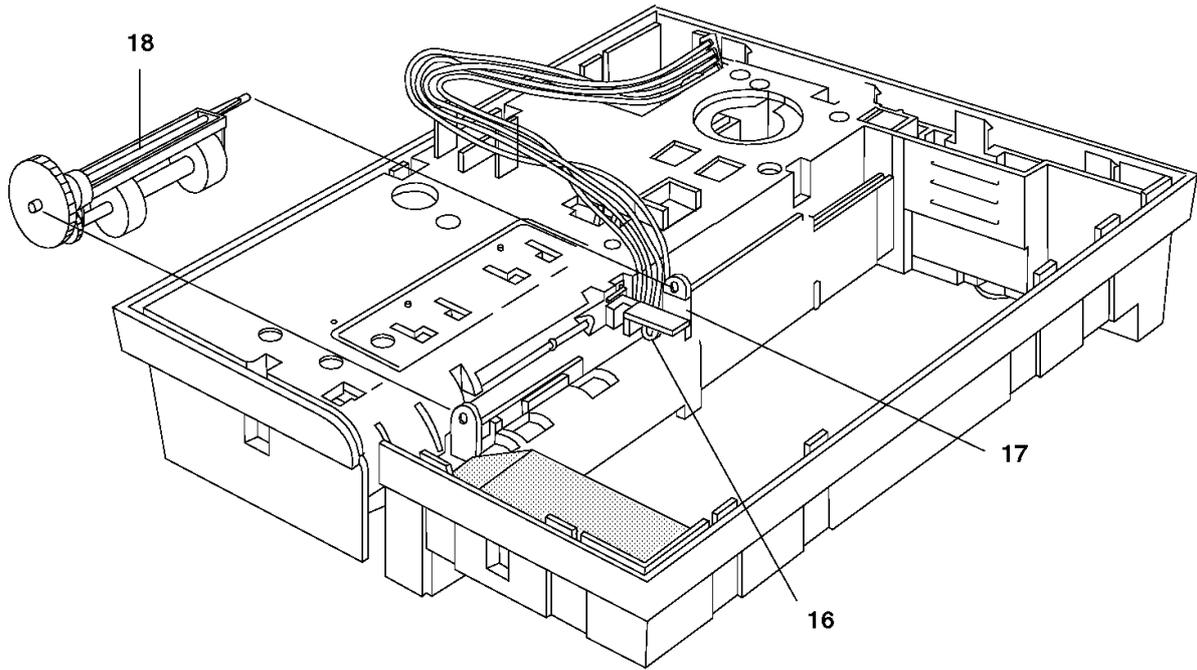

Figure E-7. Part 7. Removing the Toggle Assembly and Document Sensor
Note: Pull the toggle shaft, see (18) in Figure E-7 away from the document insert/customer receipt motor before you lift the upper frame assembly.